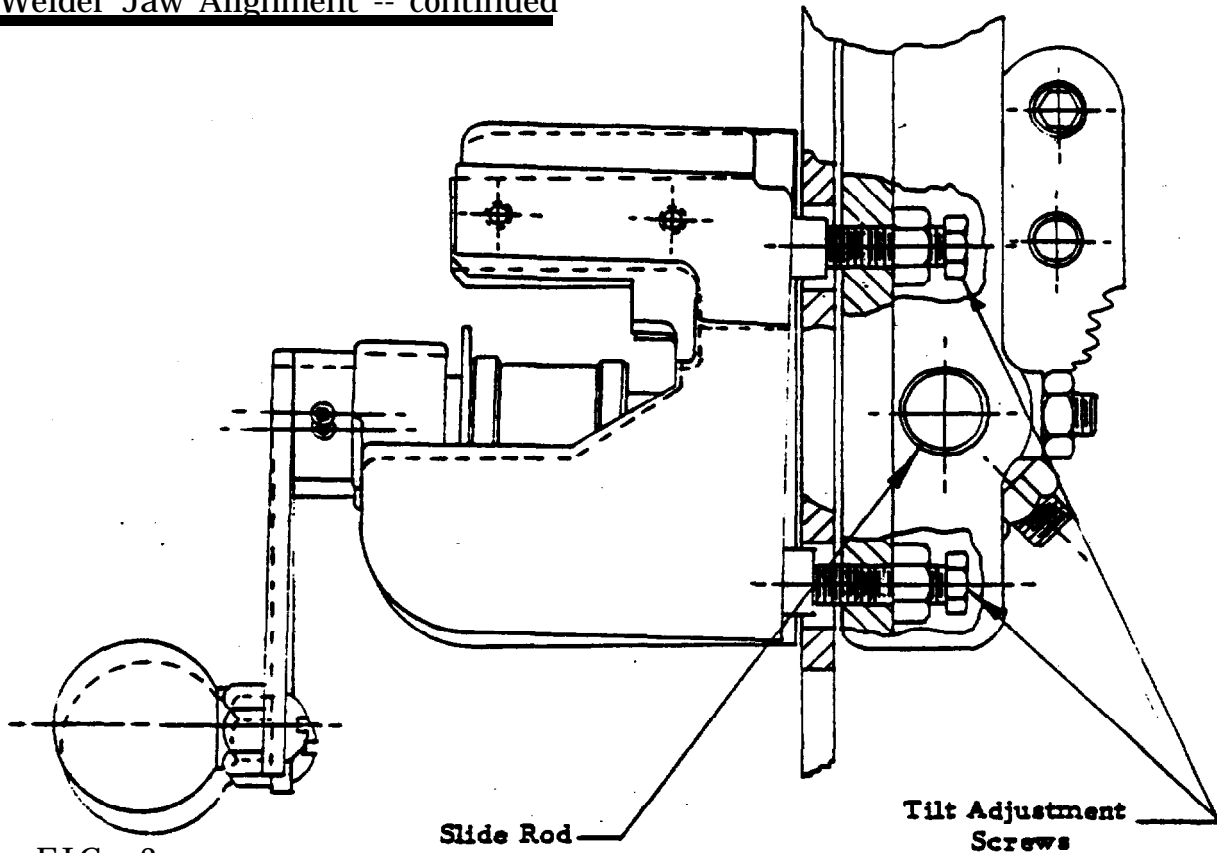

FIG. 3
3. Fig. 3 is an example of twist misalignment. The movable jaw must be adjusted to correct this problem. Two adjustment screws are provided. Both of them must be used when making a correction. Care must be taken to prevent any binding on the slide rod.